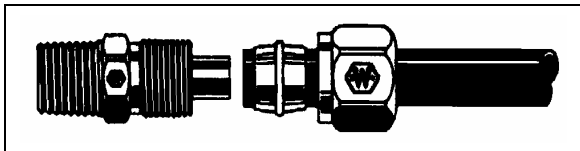

FIGURE 49: HOSE FITTING 12055
**NTA-Type Plastic Tubing:** Hand tighten nut (Fig. 49). From that point, tighten using a wrench the number of turns indicated in the following chart.